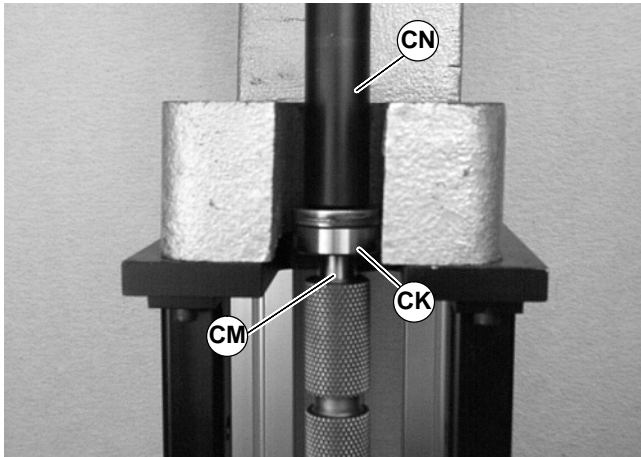

Figure 52
3. Place the shaft of tool (part # 450282) (CN of Figure 52) over pulley shaft (CM).